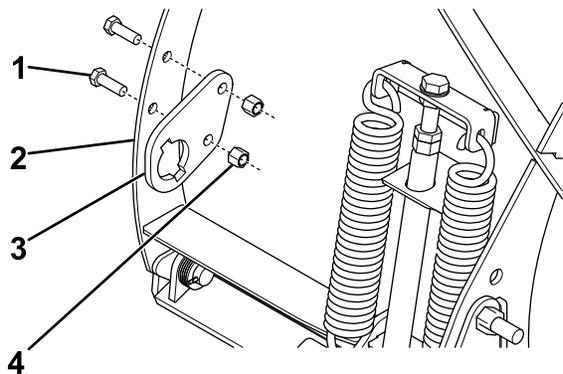

Figure 5
9. Loosely attach a rib bracket to the outermost plow rib using 2 bolts (1/2 x 1-1/2 inches) and locknuts (Figure 5).